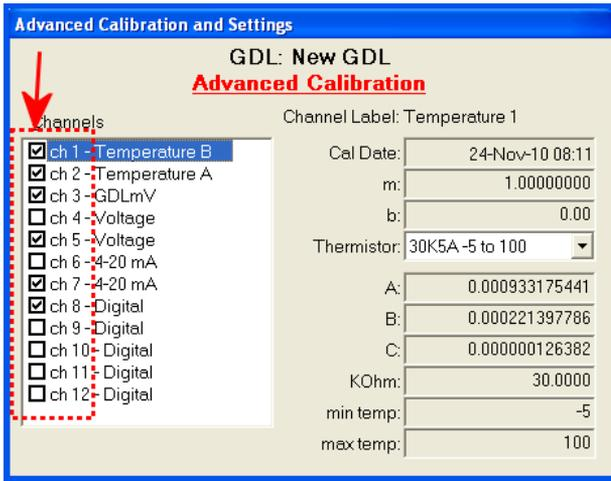

Figure 3: Turn channels on or off by checking or unchecking the checkboxes.
- Turn channels on or off by checking or unchecking the checkboxes next to the specific channels. (Depending on how your GDL is configured, your channel list may be slightly different than the one in Figure 3.)